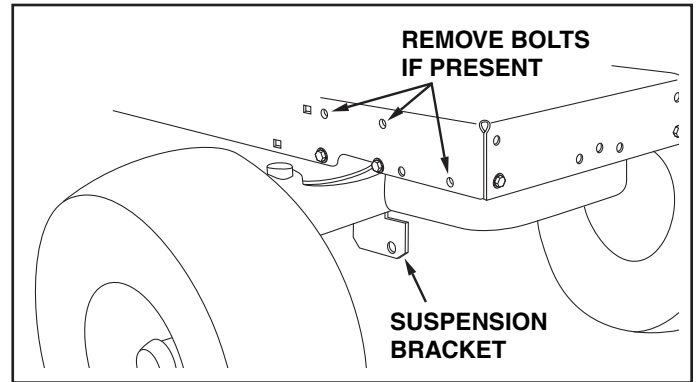

FIGURE 22
If your tractor resembles figure 22, go to step 23.
STEP 23: (SEE FIGURE 22)